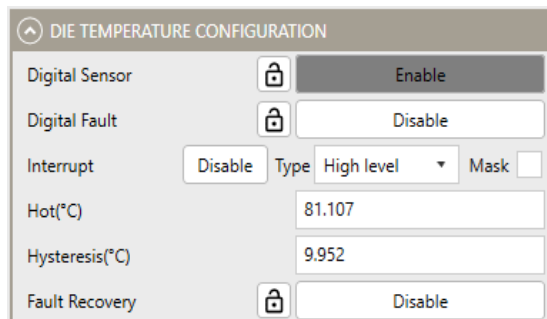

Figure 22: Die Temperature Configuration
14. Figure 22 shows the Die Temperature Configuration settings in the GUI.